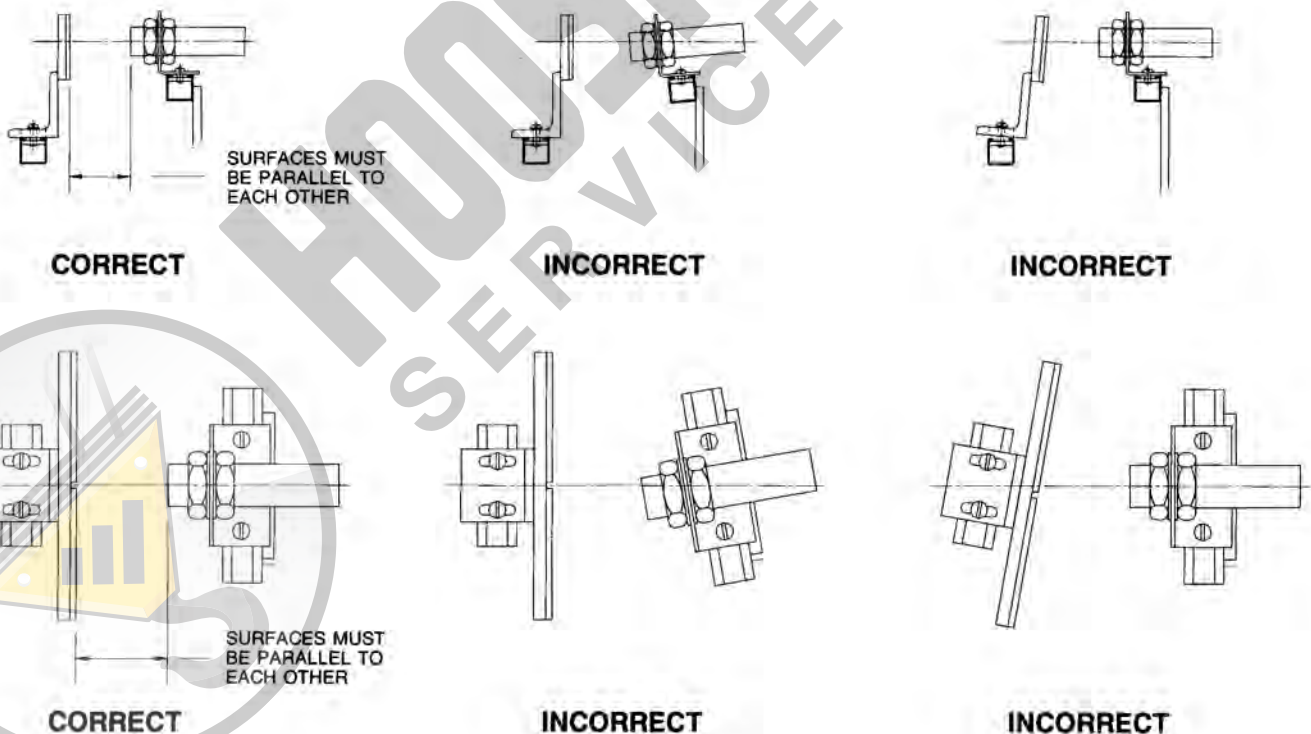

FIGURE 51
12. Before operational adjustment of the photo-eye is attempted, check that the photo-eye and its reflector are properly aligned. As illustrated in Figure 51, the centerline of the photo-eye and reflector assembly must be aligned with each other. The front surface of the photo-eye must be parallel to the reflective surface of the reflector (target) assembly in both the horizontal and vertical planes. This assures proper light reflection back to the photo-eye receptor. If this alignment is not checked first, adjustment of the photo-eye is very difficult. The photo-eye and/or target assemblies can be re-positioned by loosening the respective bracket retaining screws and sliding the photo-eye or reflective target on its unistrut mounting to the desired location. After the assemblies are located in the desired position, re-tighten the bracket retaining screws.
15. Adjust the sensing distance between the photo-eye and the reflective target. Sensing range is between 1-1/2" and 6". Experience indicates that approximately 2" is ideal. With the photo-eye aimed at the reflective tape exposed through the aperture, and power applied, the red LED on the back of the photo-eye should illuminate. If it does not, check that the reflective target assembly and photo-eye assembly are properly aligned as referenced in Figure 51. If the reflective target assembly and photo-eye assembly are properly aligned, adjust the sensing distance until the red LED on the back of the photo-eye illuminates. To adjust the sensing distance, temporarily loosen the adjusting jam nuts that hold the photo-eye to the photo-eye bracket, and move the photo-eye in or out until the sensing distance is in the optimum range. When a distance is achieved that allows the red LED to illuminate, re-tighten the photo-eye adjusting jam nuts. Refer to Figure 52. Check that the position of the photo-eye does not interfere with any crane components or the building structure that may exist along the entire length of the crane runway. Failure to check for interference could result in damage to the photo-eye if it would impact objects during crane operation.